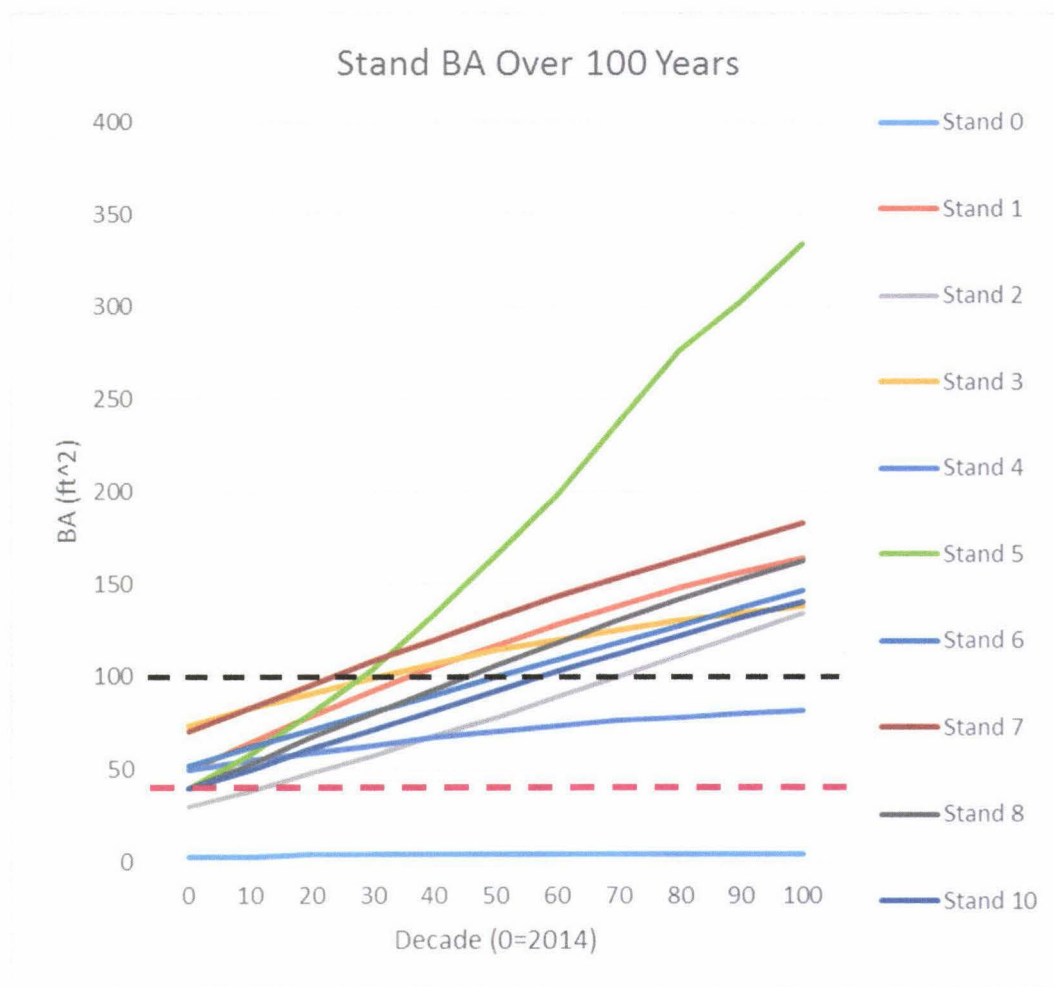

Figure 1 BA Over Time
Shambhala Mountain Center consists of 608.5 acres just southeast of Redfeather Lakes, CO. Its property has been broken into 10 distinct stands. A stand map has been provided at the end of this document for reference (Figure 11). In general, the forest looks healthy with little to no signs of dwarf mistletoe and mountain pine beetle, although no formal survey has been conducted to verify this. Mitigation has been done in the past years to mitigate fire risk by maintaining fairly low stand densities and removal of ladder fuels. The forest's projected basal area (BA) growth, as modeled in FVS, is shown in Figure 1. The preferred range for BA is between 40 ft² and 100 ft² for Front Range ponderosa pine forests. When a ponderosa forest in the Front Range exceeds a BA of 100 ft², the fire risk increases, tree vigor decreases, and aesthetics tend to trend downwards as well. When the BA is below 40 ft², wildlife habitat is compromised, there is a higher chance of windthrow events (usually after thinning to a small BA), and overall stand vigor is less than desirable. Each stand is described individually through the rest of this section.